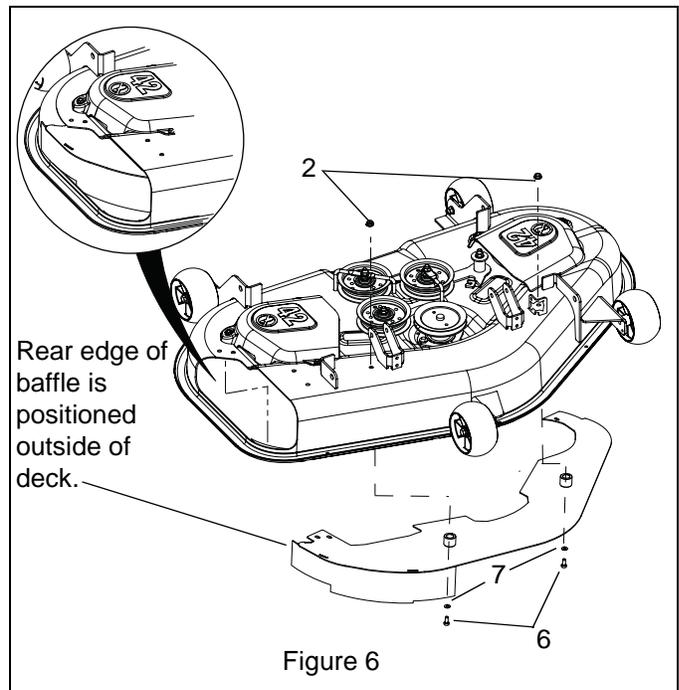

Figure 6
- Install mulch baffle into deck with the rear edge of the baffle positioned outside of the deck. Hook the rear outside edge of the baffle on the outside of the deck first. Carefully rotate the blades (one at a time) to allow the baffle to drop in. See Figure 6.
- From bottom side of mulch kit, install two 5/16-18 x 1-3/4" bolts (item 6)) and two 7/16" flat washers (item 7). See Figure 6.
- Secure the mulch baffle from the top of the deck with two 5/16" locking top flange nuts (item 2). See Figure 6.